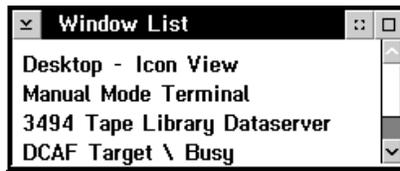

Figure 162. Window List
2. Select **DCAF Target \ Busy** with the pointing device (see Figure 162).